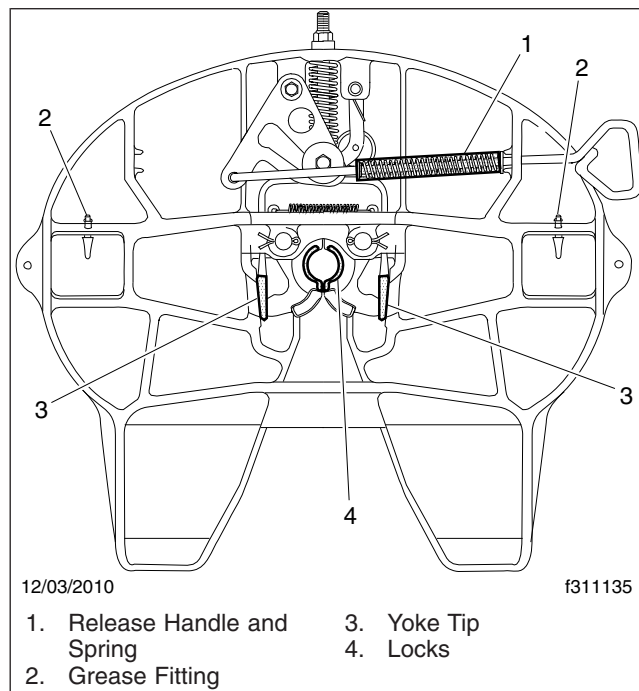

Fig. 10, Holland FW35 Fifth Wheel, Grease Lubrication
3. Grease the yoke tips, locks, and the release handle and spring; see Fig. 10. Grease the mounting bracket supports through the grease fittings. A "low temp" grade grease rated for -30°F (-34°C) or lower such as Cato Oil and